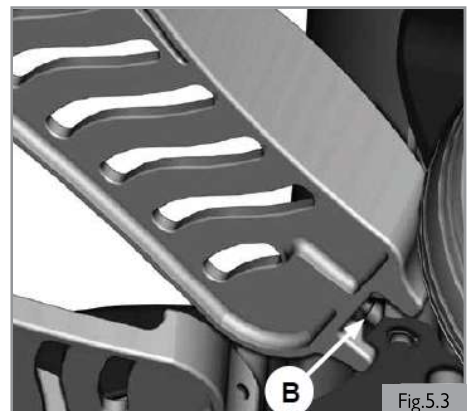

Fig.5.3
1. Flip up the footplate so that you can reach the angle setting screw (B). (Fig. 5.3)